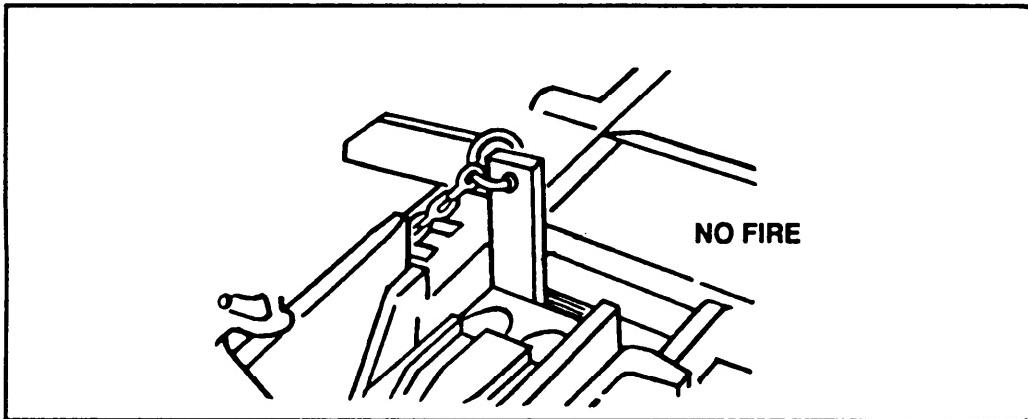

Figure 3-23. Inserting the no-fire gauge.
- (1) Check headspace first as previously described.
- (2) Pull the bolt to the rear with the retracting slide handle and then ease bolt fully forward to cock the machine gun.
- (3) Grasp the retracting slide handle and retract the bolt just enough (1/16 inch) to insert the no-fire gauge between the barrel extension and the trunnion block. Release the retracting slide handle (Figure 3-23).
- (4) Depress the trigger. Gun should not fire.